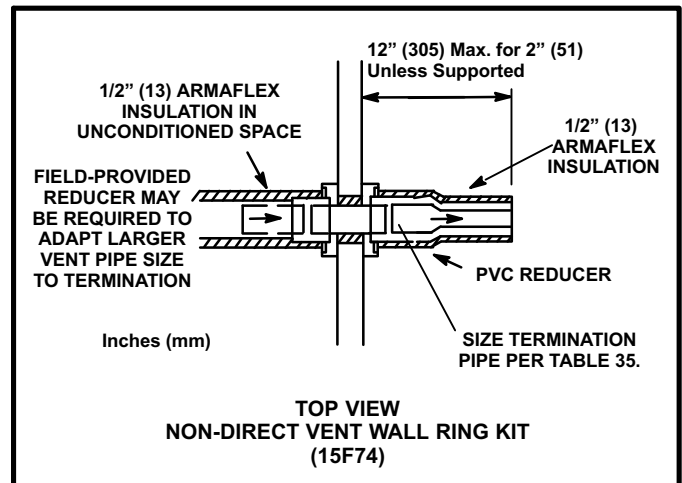

FIGURE 39
2. On field supplied terminations for side wall exits, exhaust piping should extend a maximum of 12 inches (305mm) beyond the outside wall, unless support is provided in the horizontal section. See figure 39.